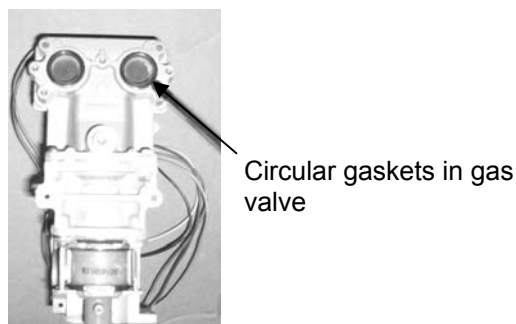

Figure 5
13. Install the gas manifold using 2 new packings (included in kit) between the manifold and the heat exchanger. Replace the two circular gaskets (included in kit) in the gas valve. Make sure that the ribbed side faces toward the manifold and that the flat side faces toward the gas valve. (Figure 5).